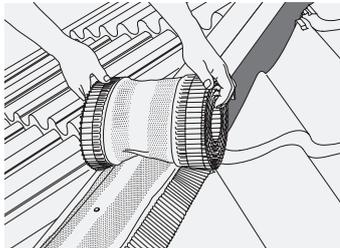

Fig. 7 – Roll out HipFast roll
- 7 Starting from eaves, roll out HipFast roll centrally over hip rafter battens, and secure in position using well spaced felt nails, leaving a distance of 100mm to oversail the hip/ridge apex. Joints along hip should be lapped by 100mm to drain water down roof (Fig. 7).